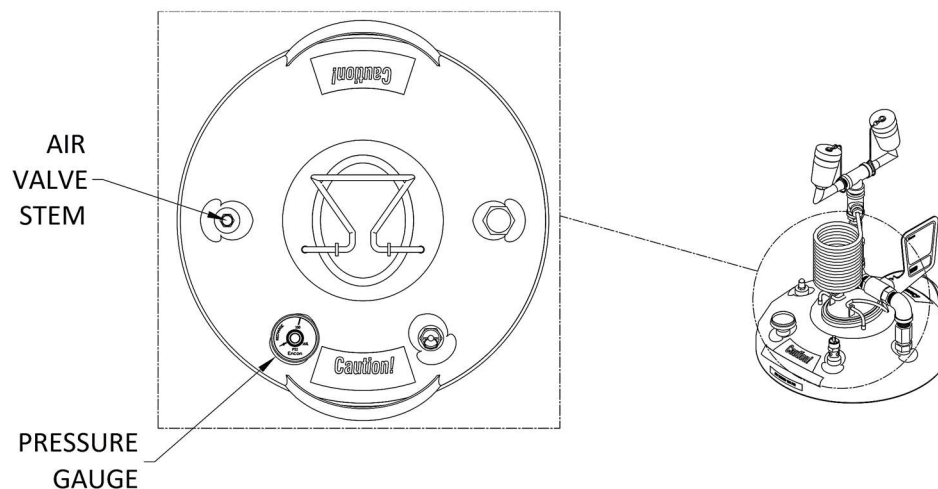

FIGURE 5
- F. Pressurize the vessel to the green bar area on the pressure gauge (see chart below) with a clean, dry air source through the air valve stem. The air valve stem and pressure gauge are located on top of the vessel (Figure 5). Pressure will drop slightly after initial filling due to compressed air cooling. Allow approximately 20 minutes for this pressure to drop. Add additional air to restore pressure to the green bar area as required.